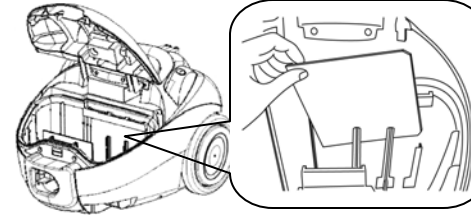

Fig. 18
3. Slide a clean filter into position between the two posts and the motor intake. (Fig. 18)